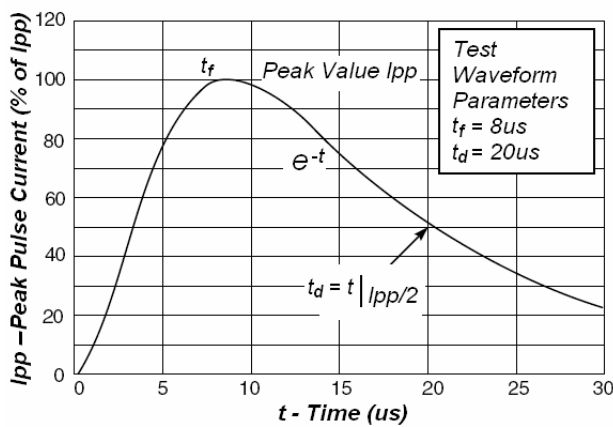

Fig1. Pulse Waveform
** Surge current waveform per Figure 1.